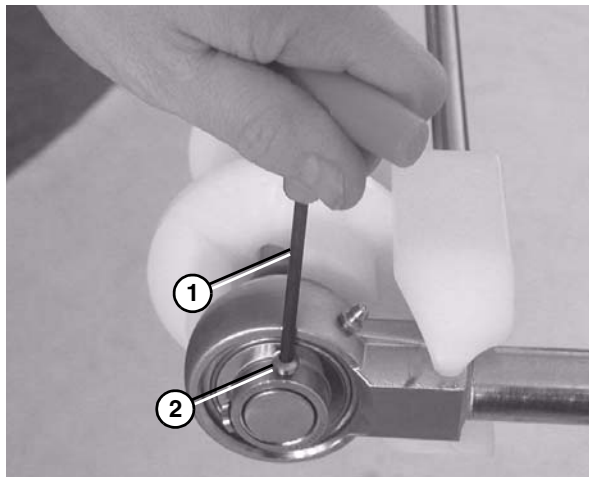

Figure 73
5. Use a hex wrench (Figure 73, item 1) to tighten the bearing shaft fasteners (Figure 73, item 2) to 54 in•lbs (6 N•m). Check after 24 hours of conveyor use.